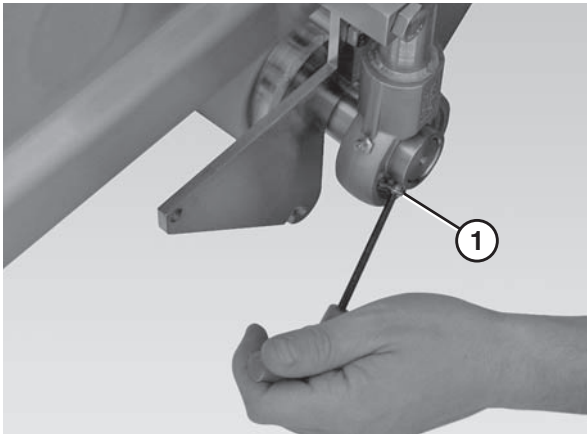

Figure 63
11. Use a 4 mm hex wrench to loosen the button head screws on the bearing (Figure 63, item 1).